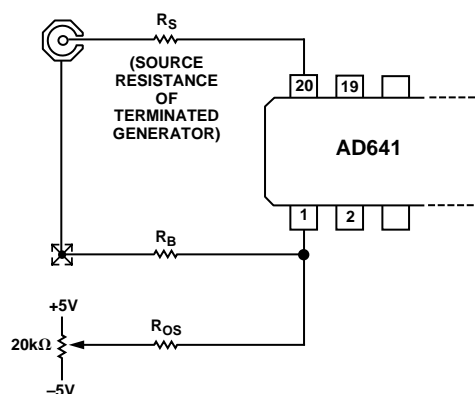

Figure 25. Optional Input Offset Voltage Nulling Circuit; See Text for Component Values
In most applications there will be no need to use any offset adjustment. However, a general offset trimming circuit is shown in Figure 25. R_S is the source resistance of the signal. *Note: 50 Ω rf sources may include a blocking capacitor and have no dc path to ground, or may be transformer coupled and have a near zero resistance to ground.* Determine whether the source resistance is zero, 25 Ω or 50 Ω (with the generator terminated in 50 Ω) to find the correct value of bias compensating resistor, R_B , which should optimally be equal to R_S , unless $R_S = 0$, in which case use $R_B = 5$ Ω . The value of R_{OS} should be set to 20,000 R_B to provide a ± 250 μV trim range. To null the offset, set the source voltage to zero and use a DVM to observe the logarithmic output voltage. Recall that the LOG OUT current of the AD641 exhibits an *absolute value response* to the input voltage, so the offset potentiometer is adjusted to the point where the logarithmic output "turns around" (reaches a local maximum or minimum).
Cascaded AD641s can be used in dc applications, but input offset voltage will limit the dynamic range. The dc intercept is 6 μ V. *The offset should not be confused with the intercept*, which is found by *extrapolating* the transfer function from its central “log linear” region. This can be understood by referring to Equation (1) and noting that an input offset is simply additive to the value of V_{IN} in the numerator of the logarithmic argument; it does not affect the denominator (or intercept) V_X . In dc coupled applications of wide dynamic range, special precautions must be taken to null the input offset and minimize drift due to input bias offset. It is recommended that the input attenuator be used, providing a practical input range of -74 dBV ($\pm 200 \mu$ V dc) to +6 dBV (± 2 V dc) when nulled using the adjustment circuit shown in Figure 25.